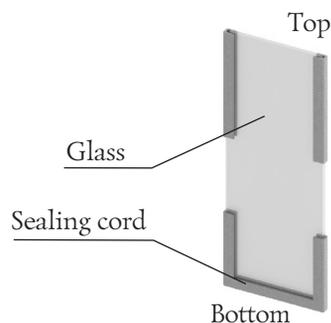

Figure18. «Battery-Fire» door glass
3. Set the new glass with attached tape into the frame. The tape on the glass must be attached as shown in Figure 18.